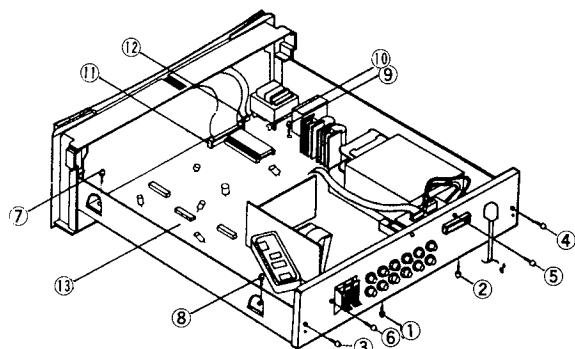

Fig. 2
1. Remove screws ① to ⑥ in Fig. 2, and then remove the rear panel.
③ PCB-⑬ (Main PCB) Removal.
1. Remove the rear panel in Fig. 2(Refer to step ②)
2. Remove connectors ① to ⑫ in Fig. 2, and then remove pcb supports ⑩
3. Remove screws ⑦ to ⑨ in Fig. 2, and then remove the main pcb ⑬
④ Front Panel Assembly Removal